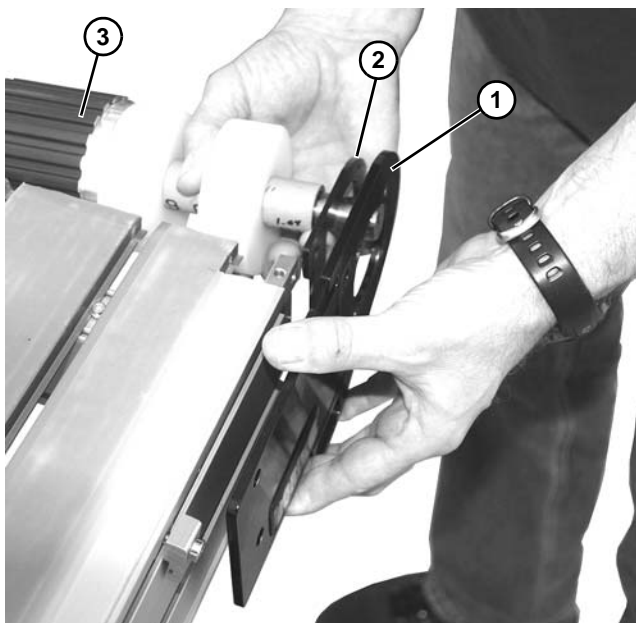

Figure 41
8. Slide the drive pulley (**Figure 41, item 3**) out of the headplate on the opposite side.